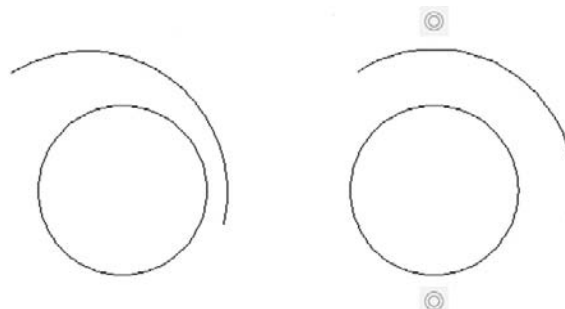

FIGURE 13.13
Step 1. Draw a circle, then an arc above it, as seen in Figure 13.13 (left).
Immediately after the selection of the arc, you see one or both snap to a concentric setting (their centers are the same) as seen in Figure 13.13 (right). Note that, if you were to select